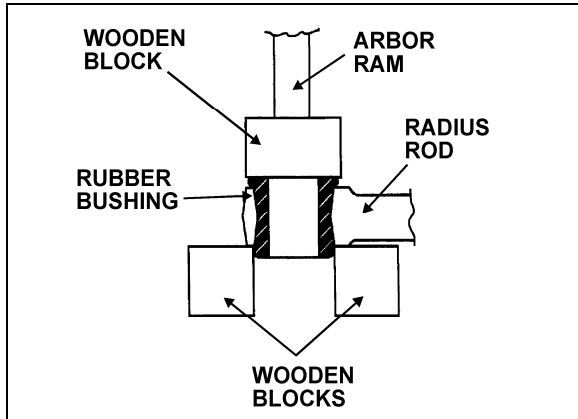

FIGURE 48: RADIUS ROD BUSHING INSTALLATION 16012
2. Safely support the radius rod, and place new bushing on top of the radius rod end (Fig. 48).
1. Lightly spray the radius rod support with water. Place the radius rod end over the radius rod support (Fig. 48).